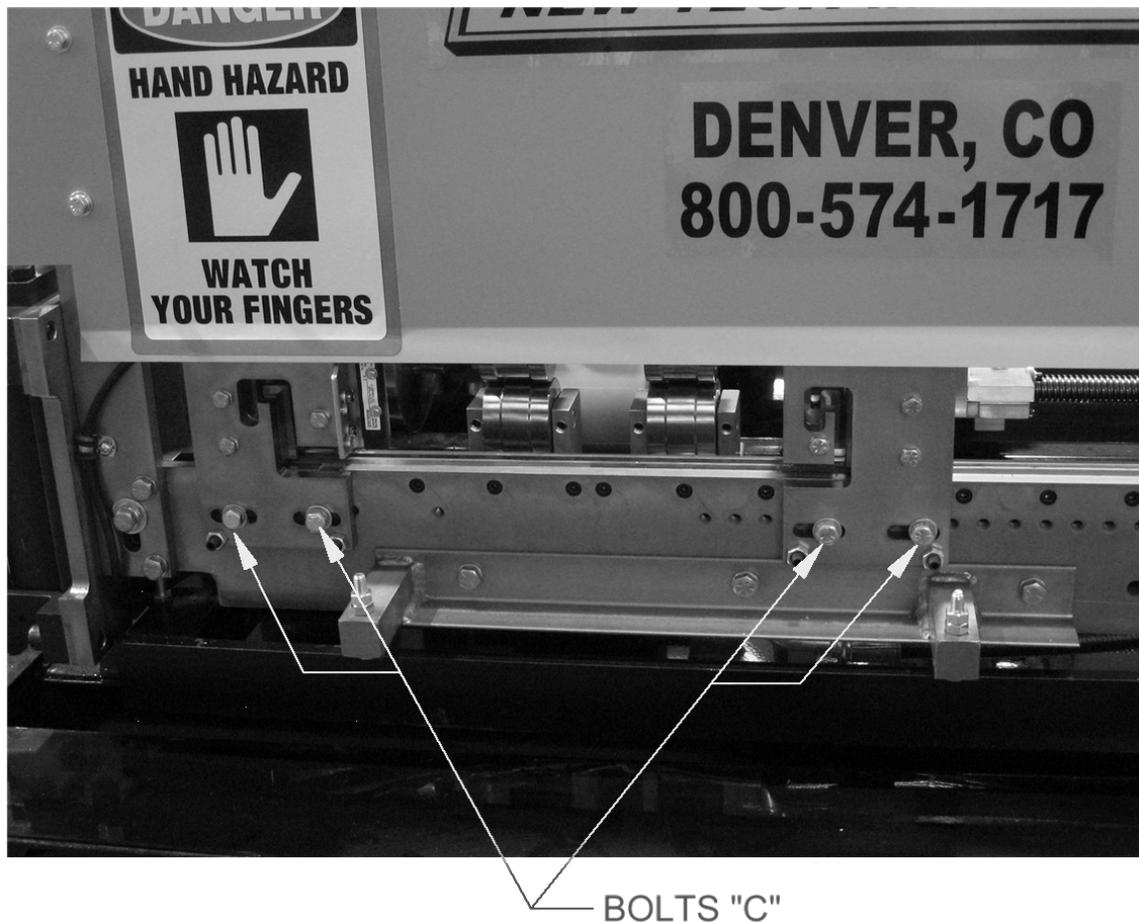

Figure 38: Shear Bolts
20. Remove the two “C” bolts located in the slotted holes at the bottom edge of the exit male shear die assembly and set the bolts and assembly aside. (Figure 38)